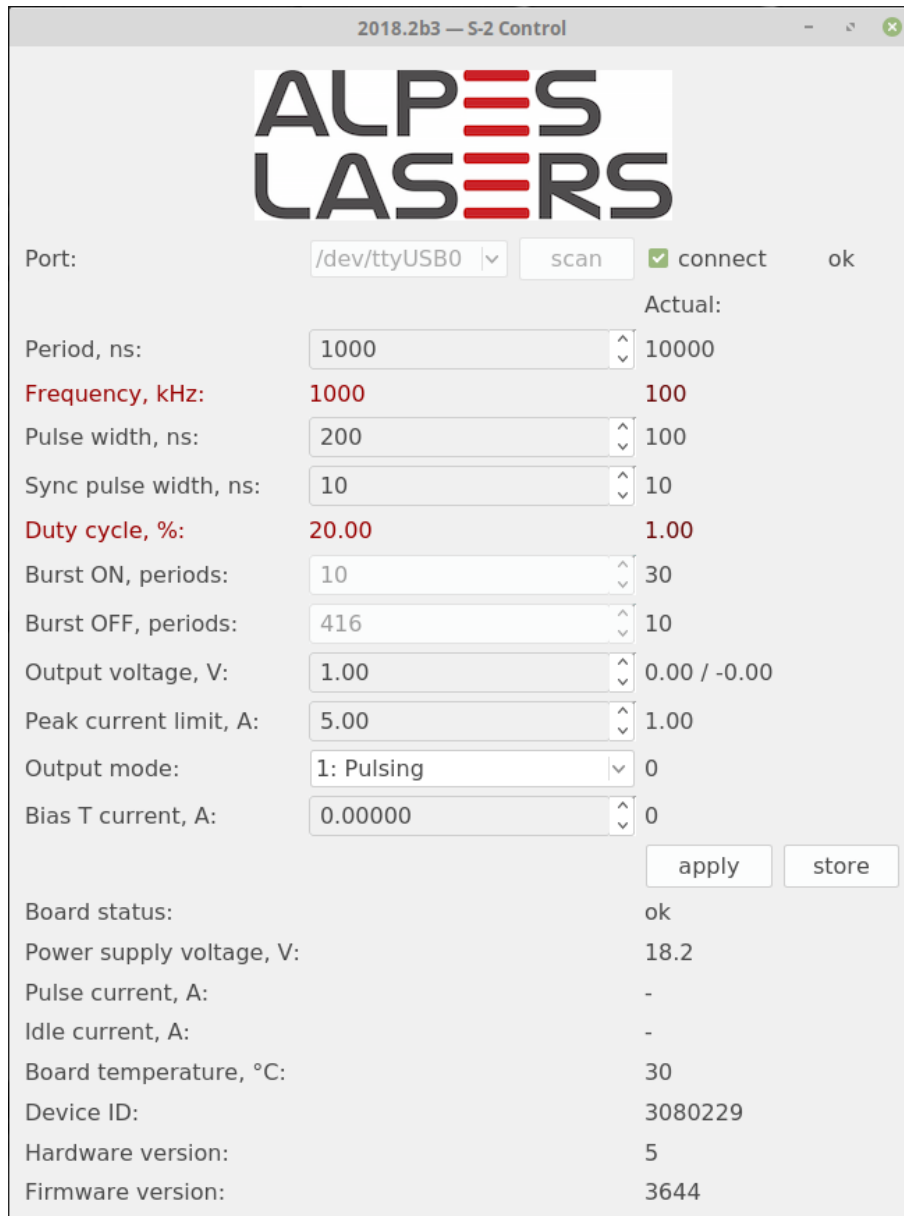

Figure 6.14.: Dialog Box for internal control.
1. open the S-2 graphical user interface to connect the S-2 pulser to the customer's computer: a dialog similar to the one shown in figure 6.14 will appear;